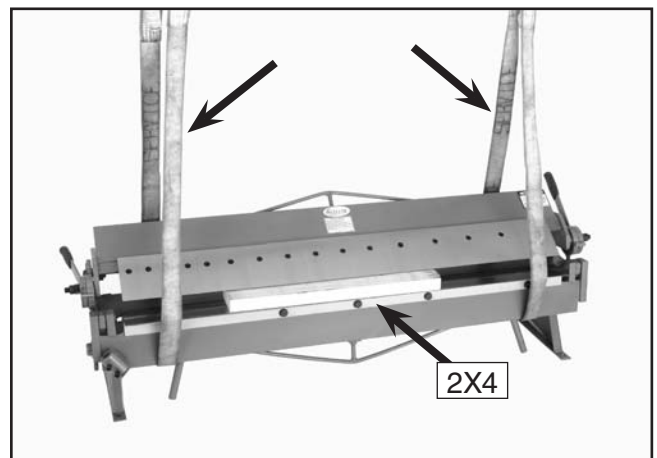

Figure 2. Pan and box brake supported by lifting straps and 2x4 to stabilize bending leaf.
- Make sure the bending leaf stays in the down position by clamping a 2x4 piece of lumber between the clamping leaf and clamping block as in **Figure 2**.